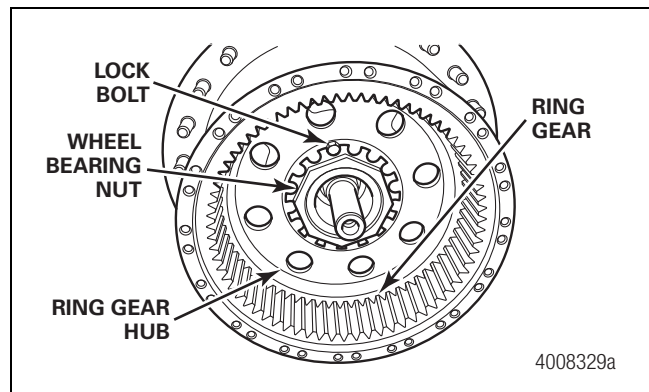

Figure 15.6
5. Install the ring gear assembly onto the spindle. Figure 15.6.